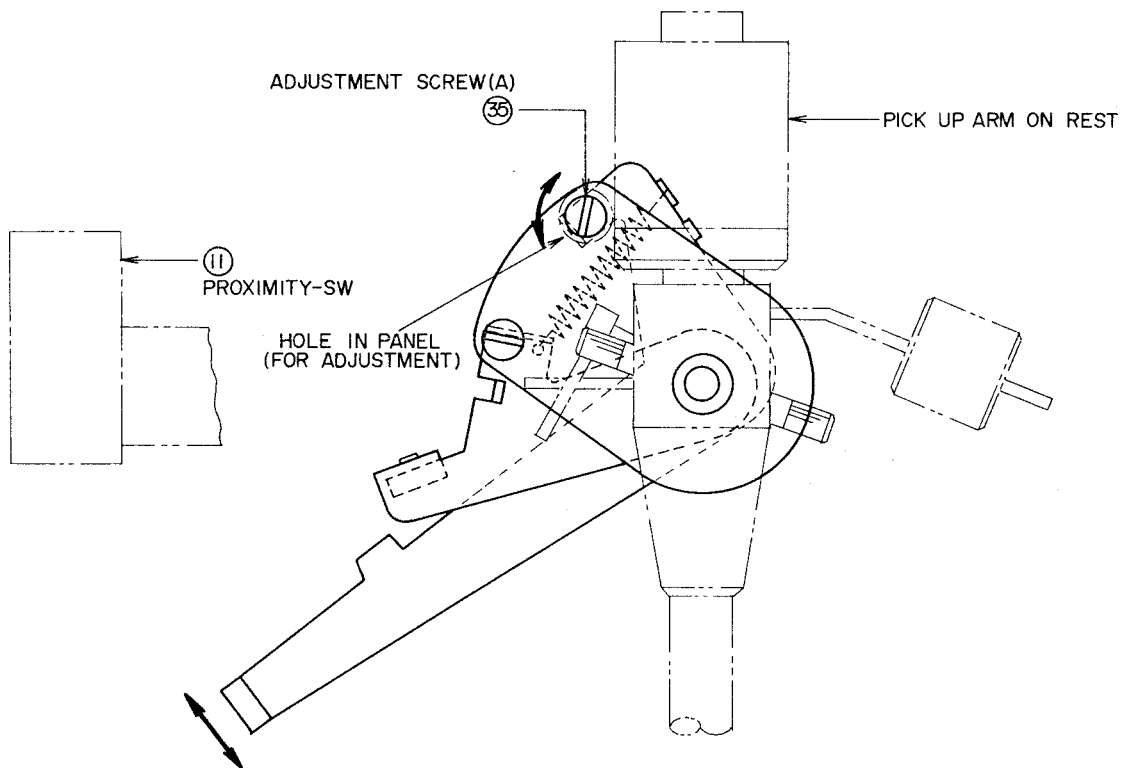

Fig. 12
Stationary the pick-up arm on arm rest and remove the rubber plug on panel toward the rear part of the pick up arm, when adjustment screw (A) (Fig. 12) is turned to the right through the hole in panel with a (—) screw driver, lead out will be sooner and when turned to the left, lead out will be delayed.